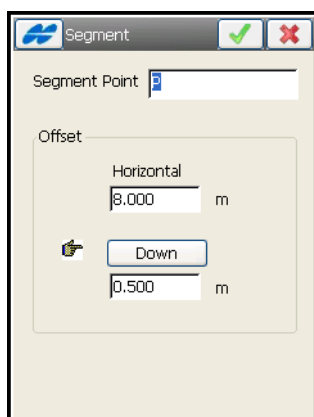

Figure 7-27. Segment Screen
- **Edit** – opens the *Segment* screen (Figure 7-27 on page 7-28) with the parameters of the highlighted segment.
The *Segment* screen (Figure 7-27 on page 7-28) contains the parameters of the highlighted segment.